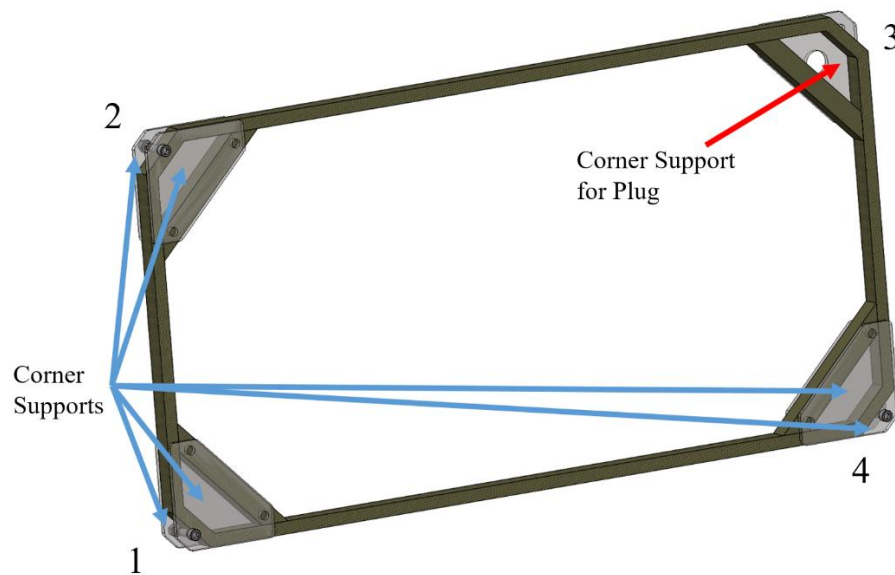

Figure 8.1
2. Epoxy the Corner Supports (PN THBC005) and the Corner Support for Plug (PN THBC006) to the Large Coil. Corners 1, 2, and 4 as shown in Figure 8.1 will each have two Corner Supports (THBC005) epoxied to them, while corner three will have the one Corner Support for Plug (THBC006) epoxied to it. One 2" 3/8"-16 bolt (PN OUTS002) and one 3/8"-16 nut (PN OUTS004) will be used to secure each outside corner of the two Corner Supports epoxied to each other for corners 1, 2, and 4. Corner 3 will only have the Corner Support for Plug epoxied to it as shown in Figure 8.1. Ensure that the Coil Support for Plug is epoxied to the back of the coil as it is shown in the configuration below, with the bolt heads being on the opposite side of the coil from the Corner Support for Plug. When the Corner Support for Plug is bolted in later in the process, the nuts should be resting on its surface.